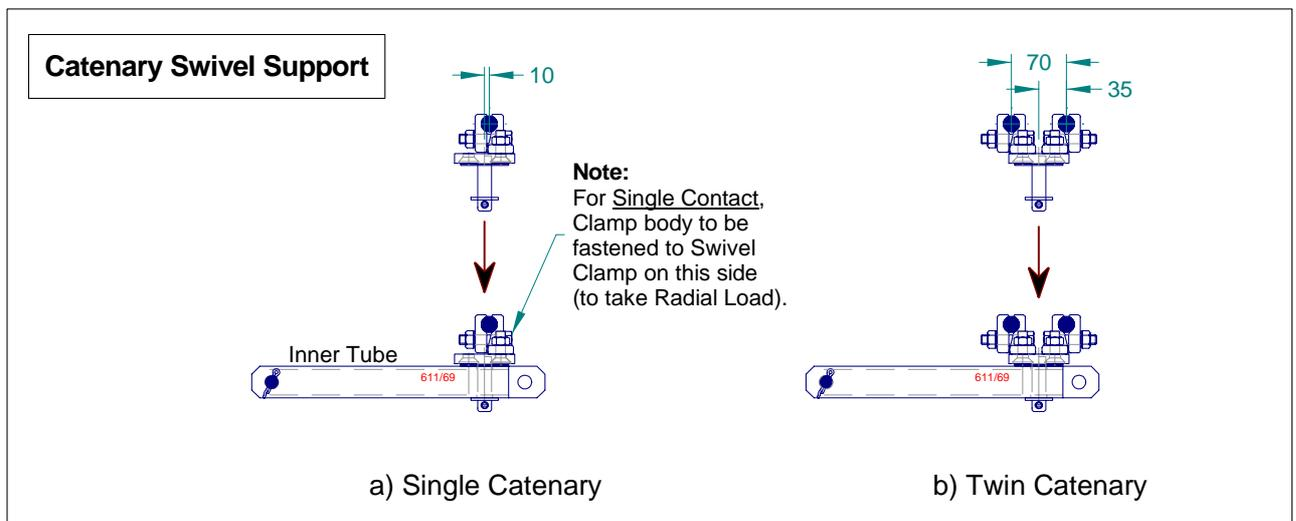

Figure 26 - Correct Orientation of Catenary Bridge Clamp on Swivel
The correct orientation of Catenary Clamp is shown in *Figure 26* – for Single Contact in particular, the main body of the clamp is to be placed on the track side to take the Radial Load on the Catenary wire.
3. When the Catenary has been run, super-tensioned and set at its appropriate “No-Load” tension (for the current temperature), transfer it up from the Ginny Wheel into the correctly orientated Catenary clamp (Item 16) and tighten this clamp – for correct orientation refer to *Figure 26*. Remove the Swing Stop fitting when required to free up the cantilever for Regulated OHW.